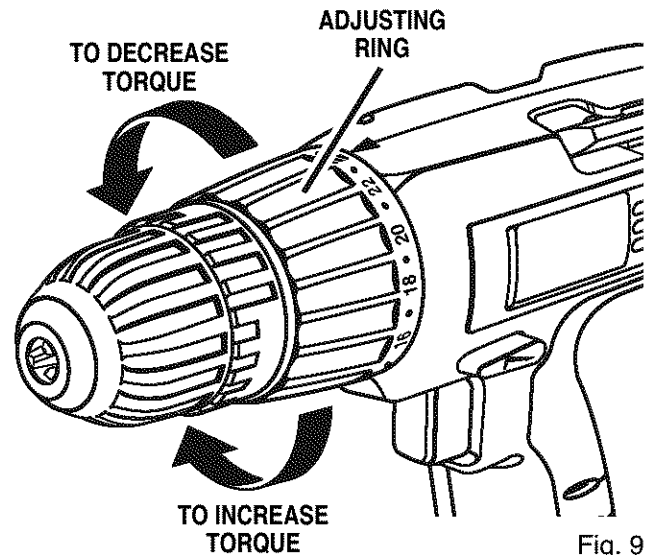

Fig. 9
See Figure 9.
- Identify the twenty four torque indicator settings located on the front of the drill. See Figure 9.